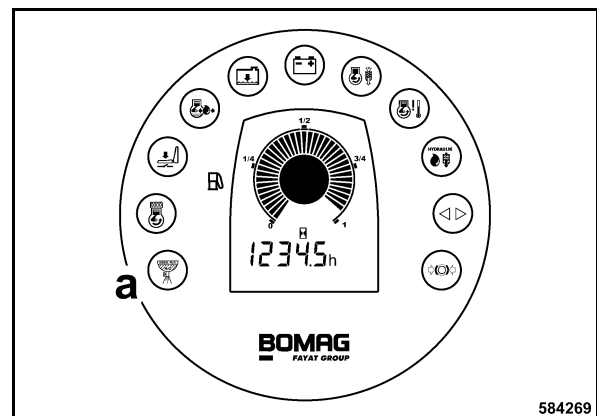

Fig. 141
- If the "water in fuel" warning light (a) (Fig. 141) lights up when starting or during operation, drain the water from the fuel filter immediately.